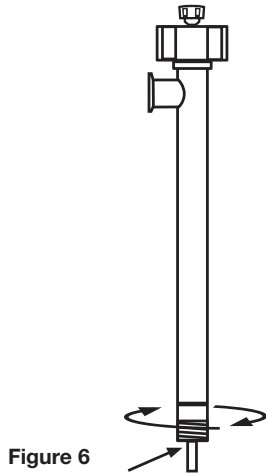

Figure 6
6. Remove the Pump Housing by turning clockwise (see Figure 6).